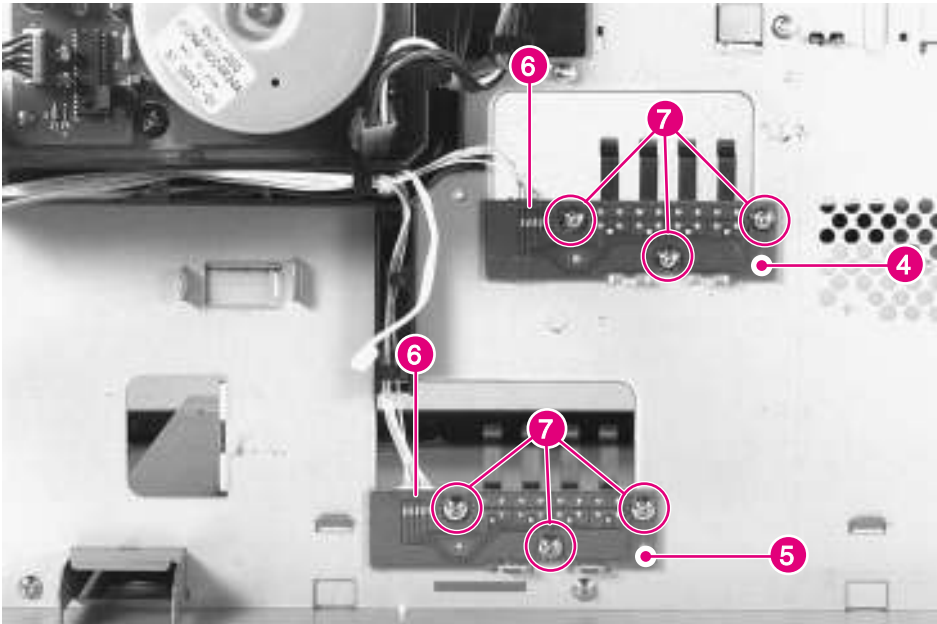

Figure 6-49 Paper Size PCA (2 of 3)
The Paper Size PCA for Tray 2 (figure 6-49, callout 4) is identical to the PCA for Tray 3 (figure 6-49, callout 5). The removal procedure for both PCAs is the same.
- 3** Unplug the connector (figure 6-49, callout 6), remove 3 screws (figure 6-49, callout 7), and remove the PCA and actuating fingers.